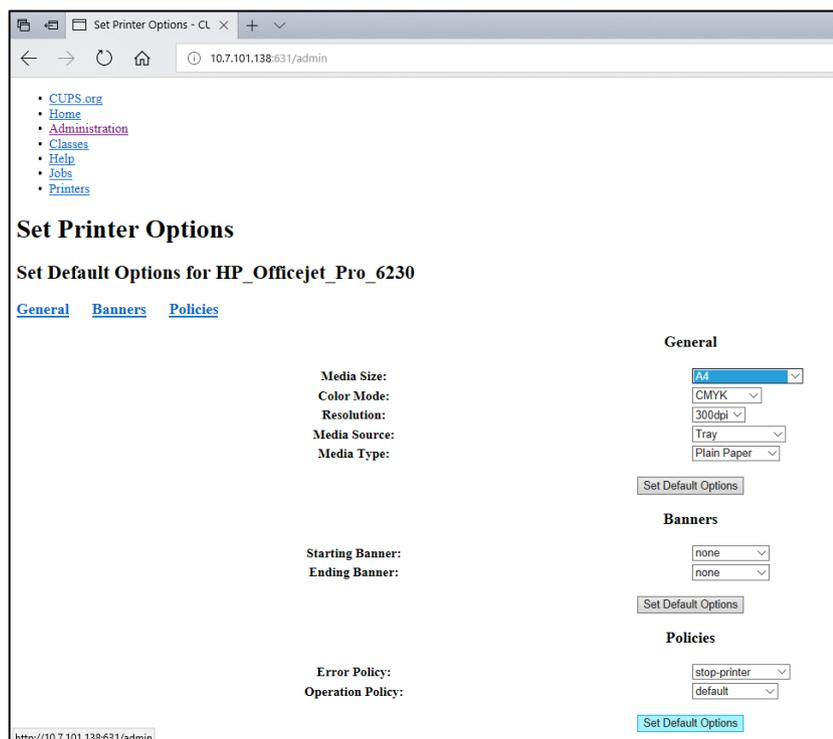

Figure 104. Selecting correct Media Size.
7. Select the correct **Media Size** (such as “A4”), because some printers will not print if the paper format is incorrect. Next, save the selection by pressing **Set Default Options** (Figure 104).